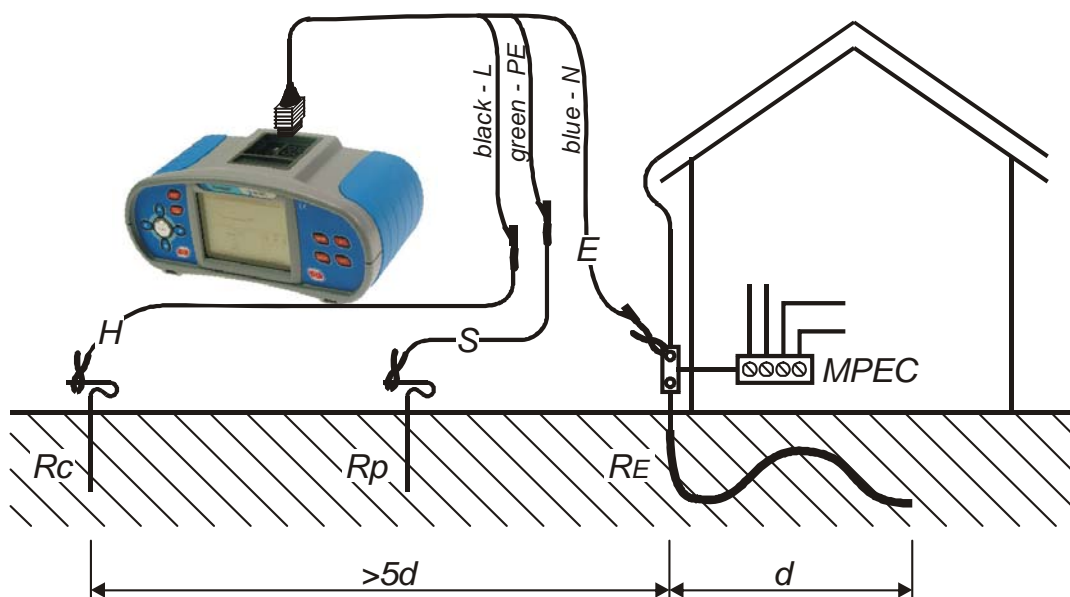

Figure 5.32: Resistance to earth, 3-wire measurement of PE grounding
- ❑ **Connect** test leads to the tested object (see figures 5.32 and 5.33).